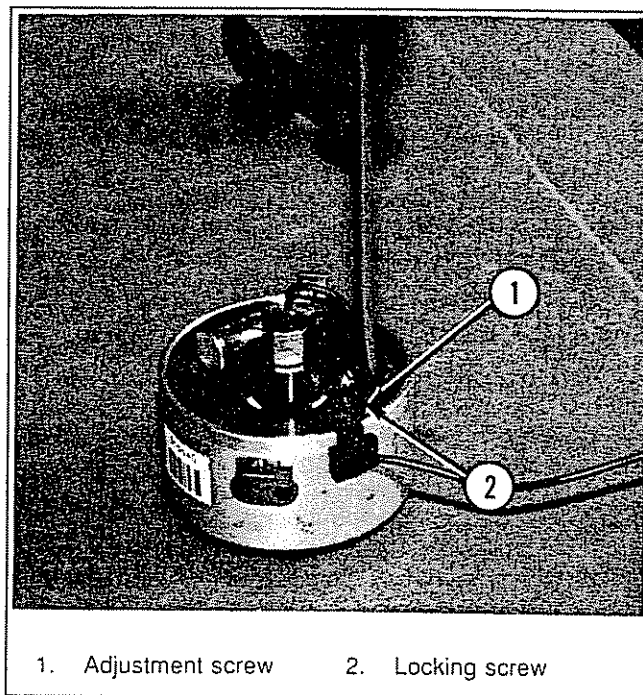

Figure 6-39. Adjusting Point Gap
3. Loosen the lockscrew and adjust the points to specifications (Figure 6-39).